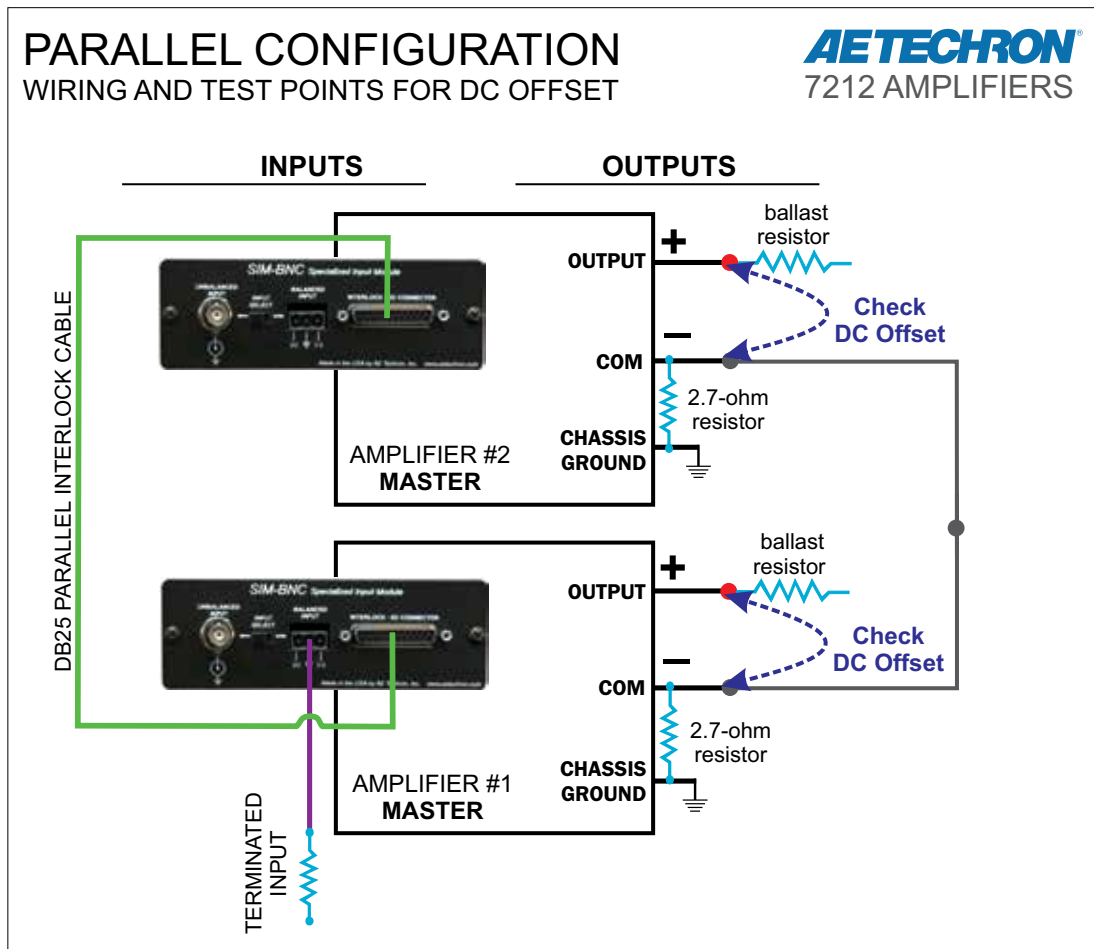

Figure B.2.21 – Wiring and Test Points for Interlock Verification and DC Offset Adjustment
- A. For each amplifier in your system, connect a leg of the black output cable found in the Parallel Wiring Kit to one of the amplifier's output connectors labeled COM on the amplifier back panel. Important: Do not connect this cable to the LOAD and do not connect the red cable at this time. See **Figure B.2.21**.
- B. Starting with either end of the DB-25 Parallel Interlock cable found in the Parallel Wiring Kit, connect the DB-25 connector to the INTERLOCK – I/O CONNECTOR on the SIM-BNC input card of the first amplifier in your system. Connect additional connectors on the DB-25 cable to the INTERLOCK – I/O CONNECTOR on the SIM-BNC input card of additional amplifiers in your system. See **Figure B.2.21**.
- Using a digital voltmeter set to DC, measure across the amplifier's back-panel output connector terminals (OUTPUT to COM) to verify that the DC offset of each amplifier is less than 5 mVdc. See **Figure B.2.21**.